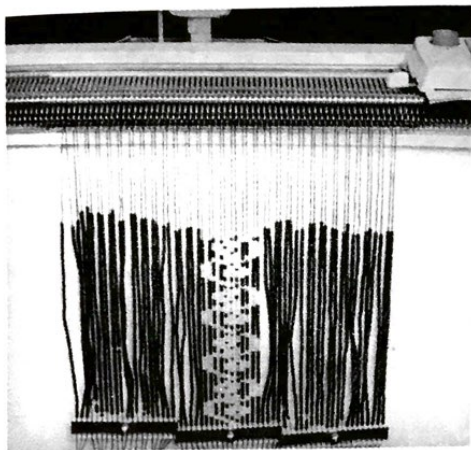

Fig. 59
- (c) With Carriage on the right and the leading Return Cam Lever at 2 bring forward ALL the working needles into position (E). Knit one row by moving the Carriage from right to left. (Fig. 59)